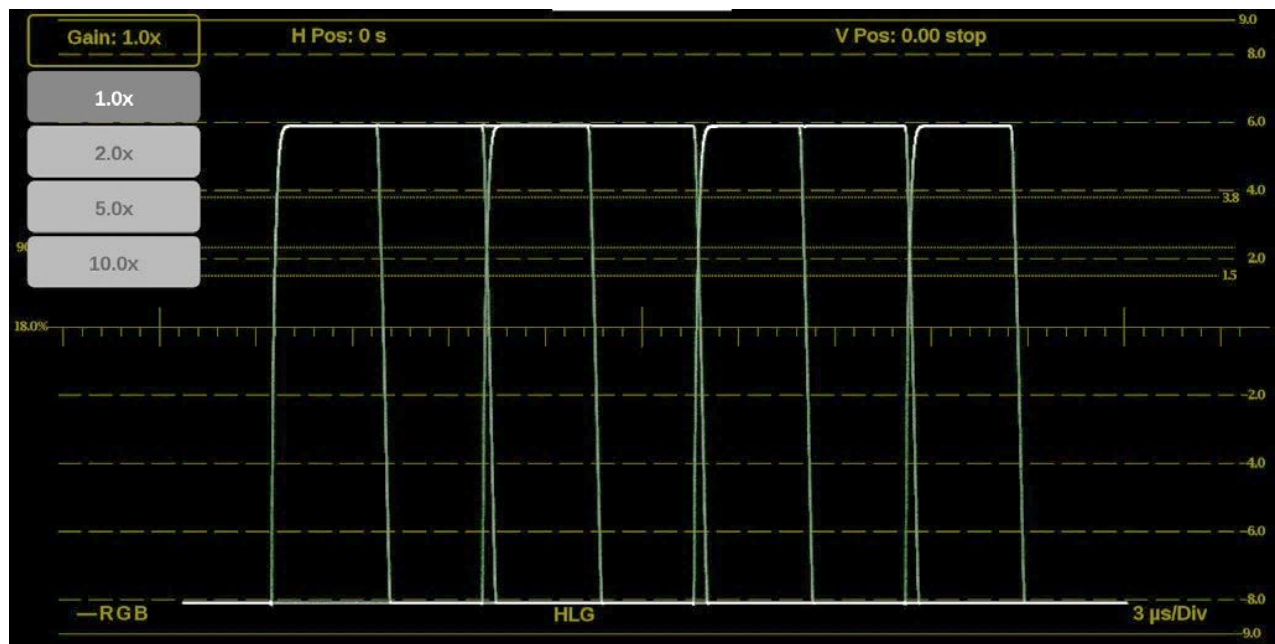

Figure 197: Stop Display on-screen tools–Gain
1. Select **Gain** to expand the available magnification options drop-down list. (See Figure 197.)